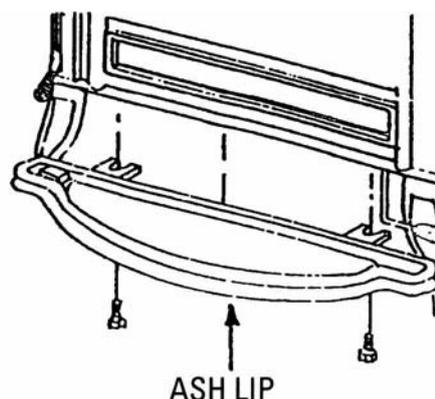

Fig 4
- Fit the front ash lip using the two 8mm x 30mm hex headed bolts supplied. See Fig 4.